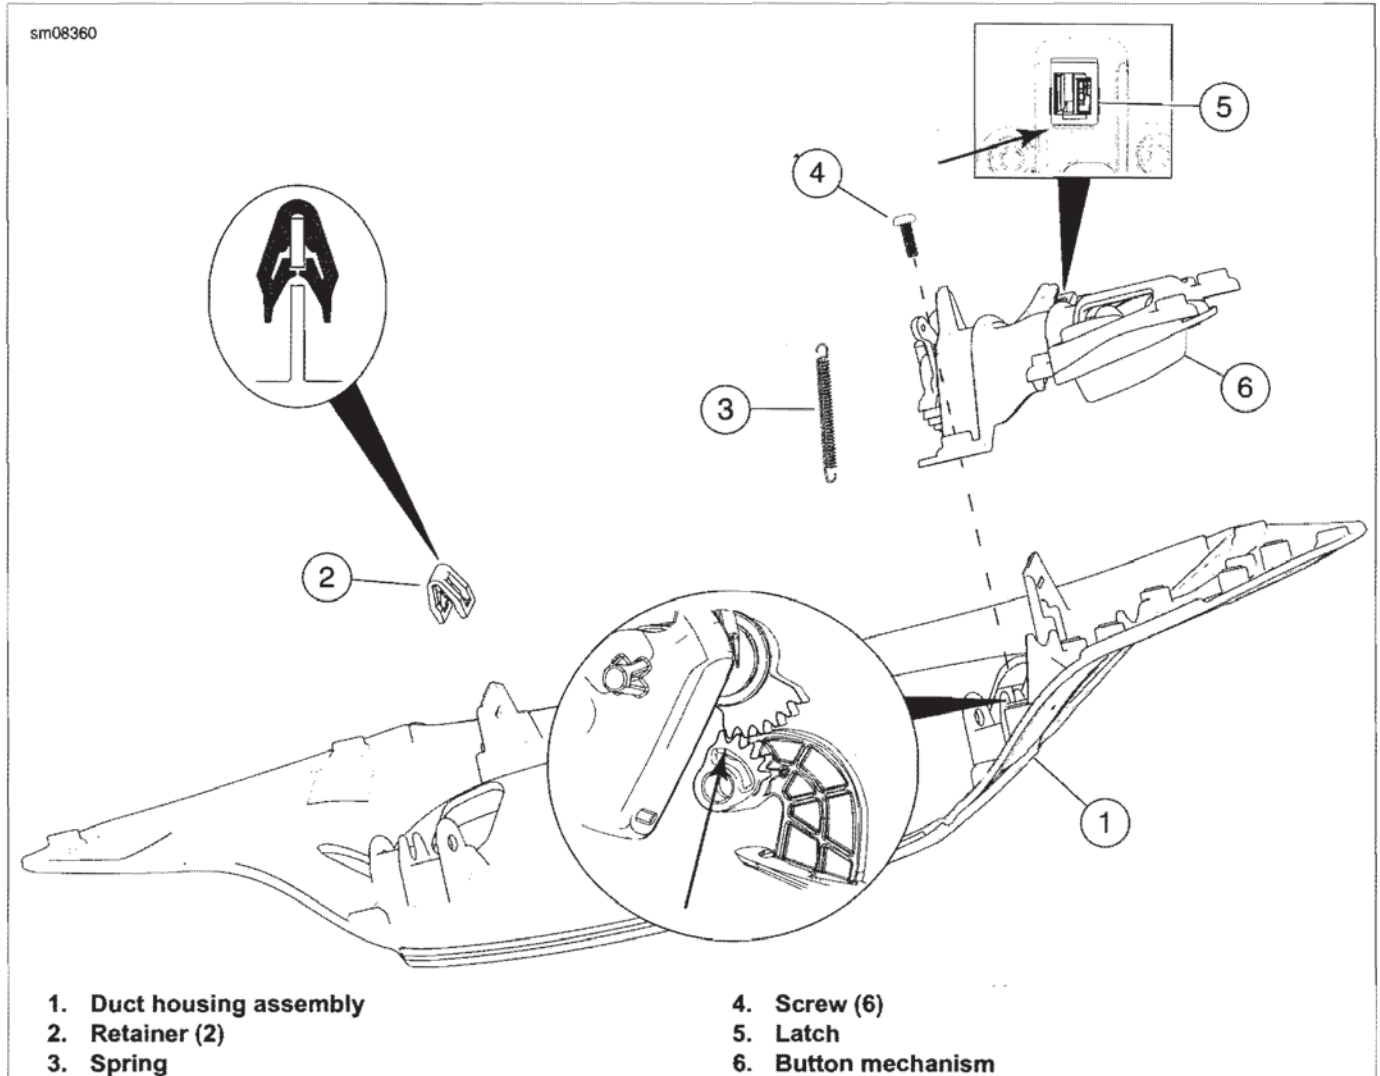

Figure 2-166. Top Air Duct Assembly
1. See Figure 2-166. Replace damaged or missing retainers (2).
2. See Figure 2-166. With latch released, remove screws (4). Remove button mechanism (6) as an assembly.
3. Inspect spring (3) and other components for damage. Clean residue from the gear teeth.
- a. Release catches on latch (5).